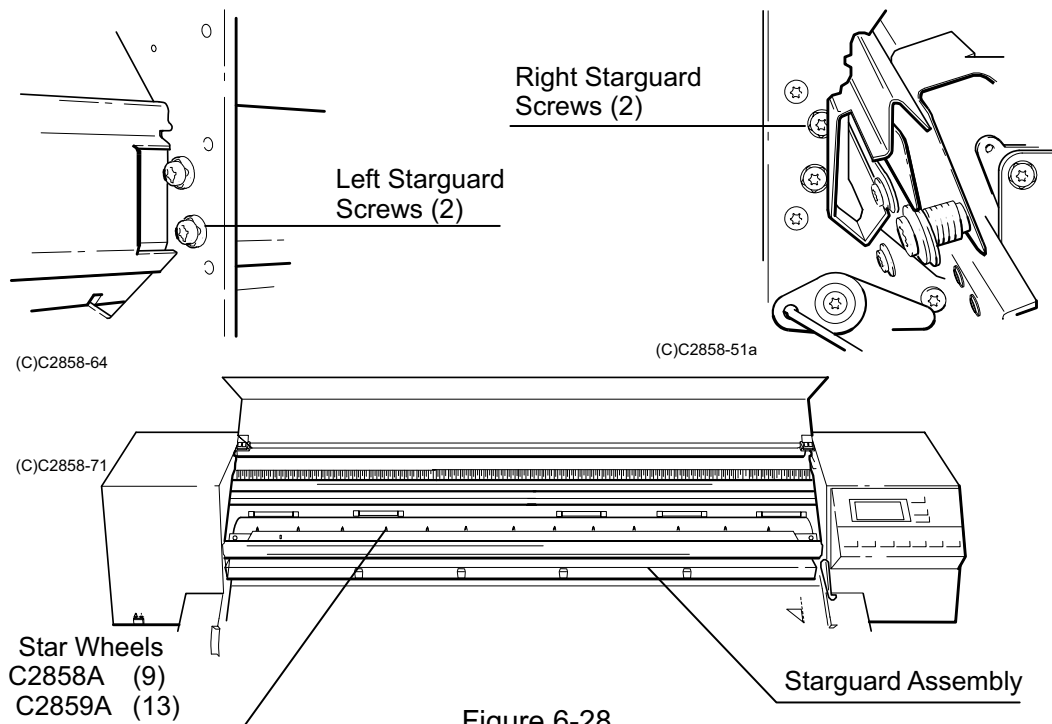

Figure 6-28.
5. Using a TORX T-20 screwdriver, loosen the upper of the two screws that attach the the starguard assembly to the left and right sideplates until the ends of the screws are flush with the inner surfaces of the sideplates. See Figure 6-28.